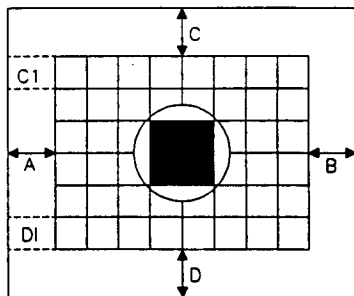

Figure 6
- Adjust VR404 until the raster is centered in the CRT (See Figure 6).
- Adjust VR304 until $|C-D| \leq 2\text{mm}$ (See Figure 6).
- Adjust VR301 until $|C1-D1| \leq 2\text{mm}$ (See Figure 6).